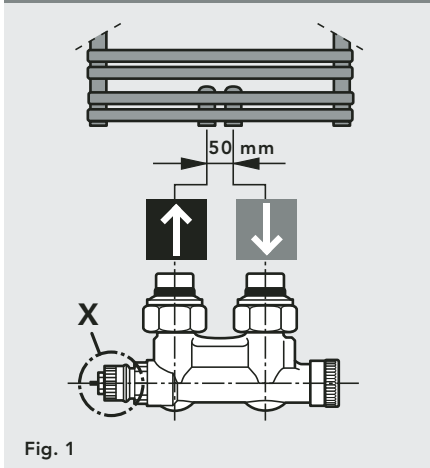

Fig. 1
**Guide values for the Kv-value setting, at a proportional deviation of 2K for FULDA-VM, LOWA-VM, CAVALLY-VM, BAWA-VM, BAWA-T VM and OHIO VSM (Fig. 1):**